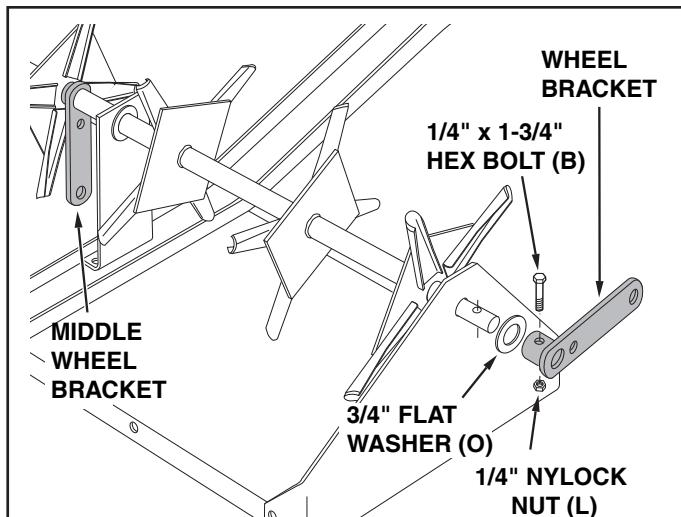

FIGURE 9
14. Turn the tray upside down. Place the ends of the shaft through the holes in the end plates (end plates must be loose). Make sure the middle wheel bracket is approximately aligned with the slot in the tray. If it is not, flip the shaft end for end. See figure 9.
15. Assemble a 3/4" flat washer and a wheel bracket onto each end of the shaft. Secure each bracket with a 1/4" x 1-3/4" hex bolt and 1/4" nylock nut. The wheel bracket on each end must point toward the front while the middle wheel bracket points toward the tray. **Tighten**. See figure 9.